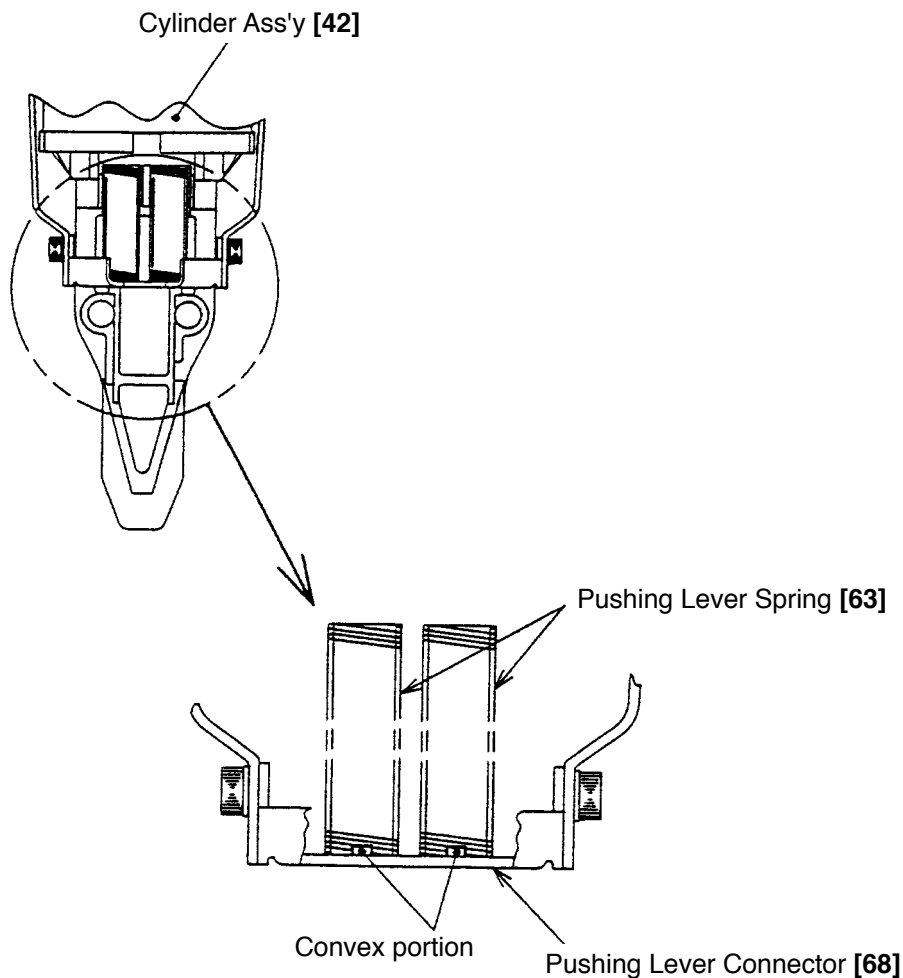

Fig. 45
- Mount the Pushing Lever Spring [63] and insert the Cylinder Ass'y [42] into the Housing [71]. At this time, fit the convex portion of the Pushing Lever Connector [68] in the end of the Pushing Lever Spring [63] being careful not to remove the Pushing Lever Spring [63] (Fig. 45).